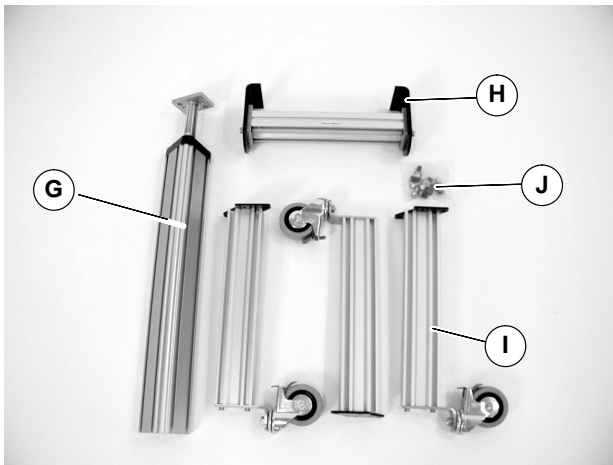

Figure 3
### 1. Typical components (Figure 3).
- Open hardware pack, single post stand (J of Figure 3).